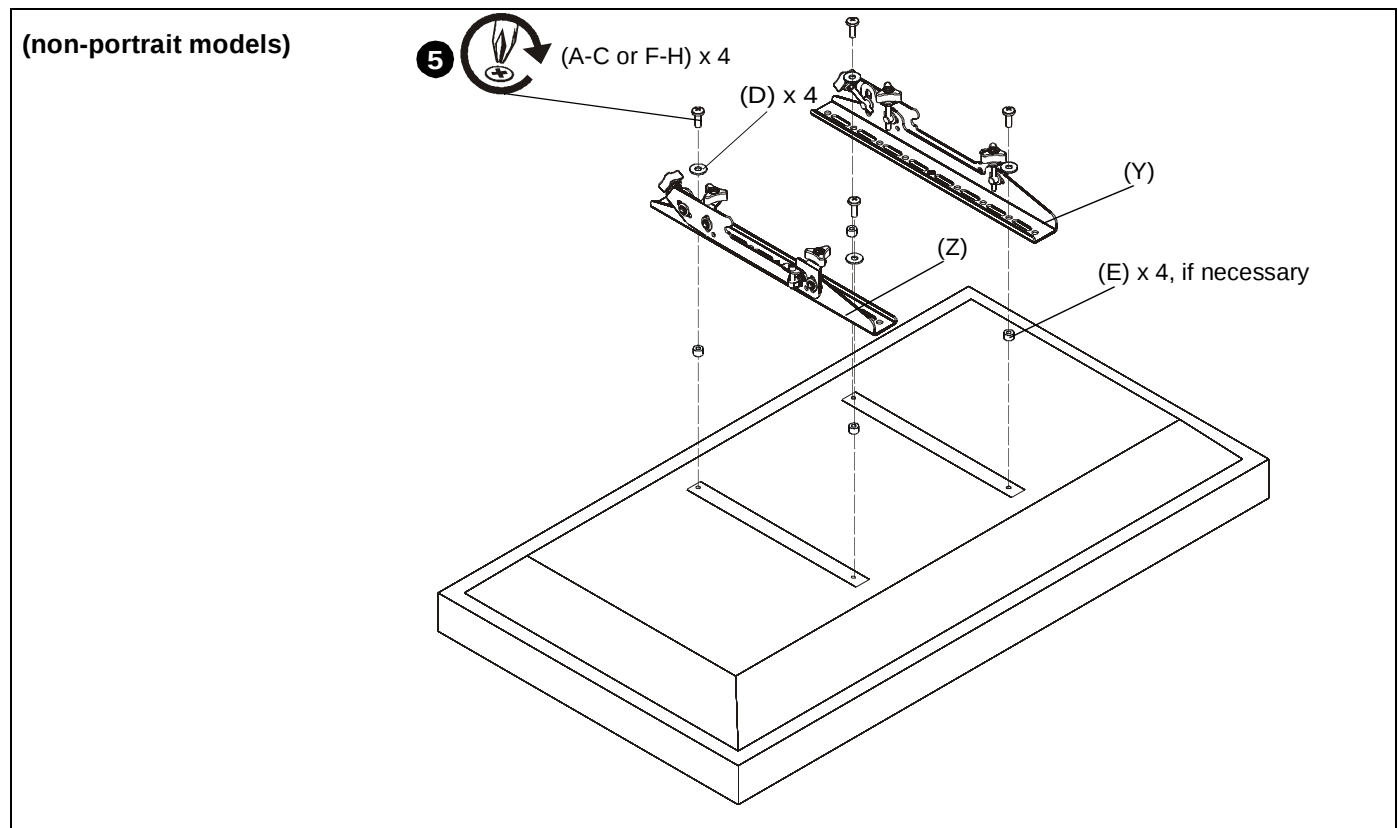
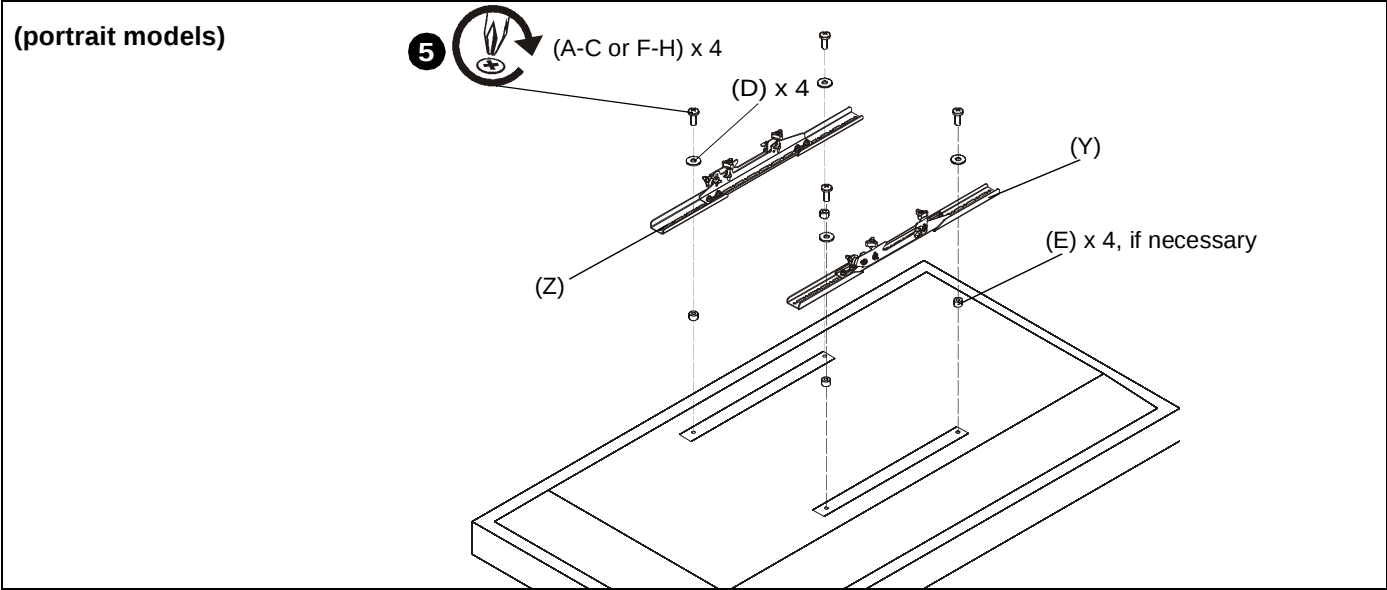

Figure 12
Figure 13
2. Select screw *diameter* by examining hardware (A-C and F-H) (6mm or 8mm) and comparing with mounting holes on display. (See Figure 12) or (See Figure 13)
- If mounting holes are recessed, or if protrusions prevent brackets (Y and Z) from laying flat, then spacers (E) must be used.
4. Select screw *length*: (See Figure 12) and (See Figure 13)
- Using your hand, insert **SHORTEST** length screw of selected diameter (A or F) through 1/4" washer (D), bracket (Y or Z), selected spacer (E, if required), into display mounting hole. Do **NOT** thread screw into hole at this time.
5. Use selected screws (A-C or F-H), washers (D) and spacers (E), if necessary, to connect interface brackets (Y and Z) to back of display. Make sure diamond on interface brackets is even with center of display. (See Figure 12)